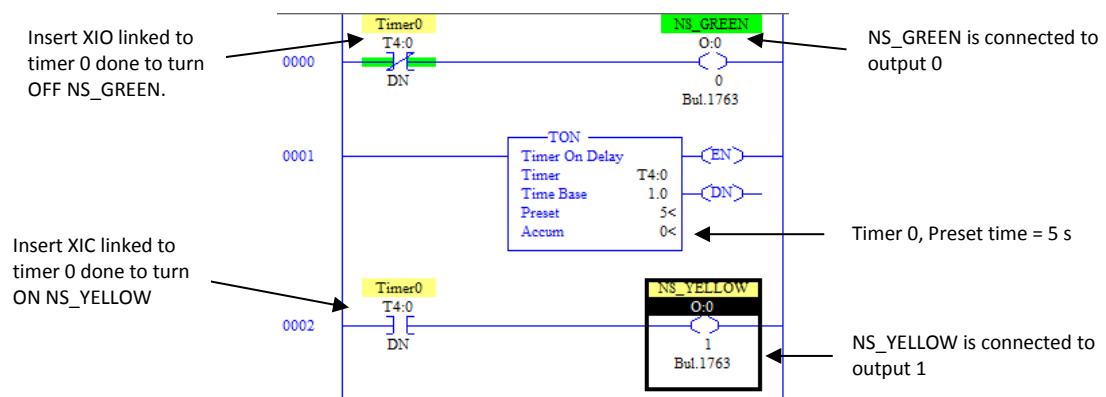

Figure 7: Timer 0 action. After 5 seconds Timer 0 will turn off the NS_GREEN output and Turn on the NS_YELLOW output.
14. NS GREEN is on, timer 0 starts, after 9 seconds, NS GREEN is OFF, NS YELLOW is on. Ladder logic for this is made as shown in figure 7.
15. Timer 0 should turn off NS RED after 9 seconds and Turn on NS GREEN. This logic can be implemented with a timer as shown in the figure 7.